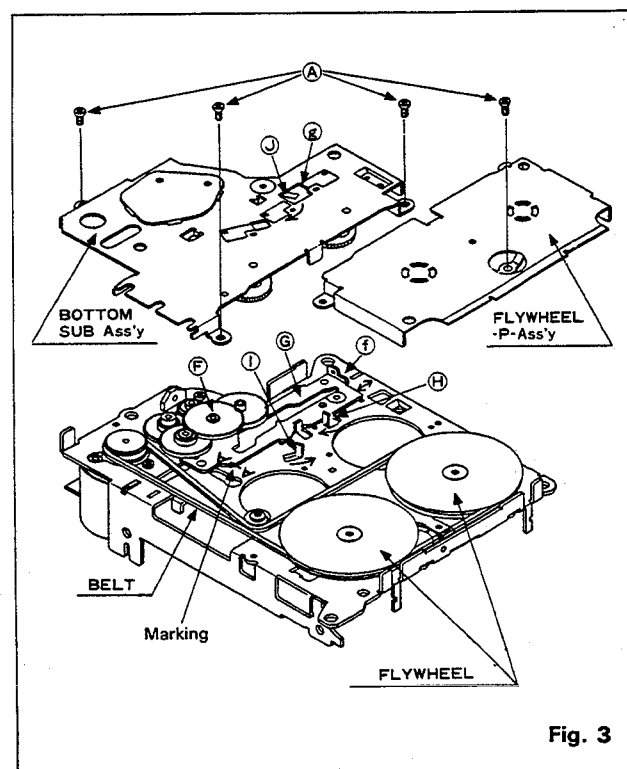

Fig. 3
- (1) Remove Screws (A) (4 pcs.). (Refer to Fig. 3)
- (2) Remove the flywheel-P-ass'y and then the bottom sub ass'y.
- (5) Following replacement of the belt, flywheel and reel base ass'y, remove the gear C (F) and move Section (f) of the mode plate ass'y (G) in the arrowed direction to make marks A-A fit. (Refer to Fig. 3).
*Moving the mode plate ass'y (G) without removing the gear C (F) causes chipping of gears.
- (6) Hold (F) again.
- (7) Move links of (H) and (I) to the arrowed direction.
- (8) Push the link (J) of the bottom sub ass'y toward the arrowed direction through the hole (g) so that the reel base ass'y is placed below the flywheel. Holding this condition, drop the bottom sub ass'y.
- (9) Reassemble the flywheel-P-ass'y and fasten it with Screws (A) (4 pcs.).